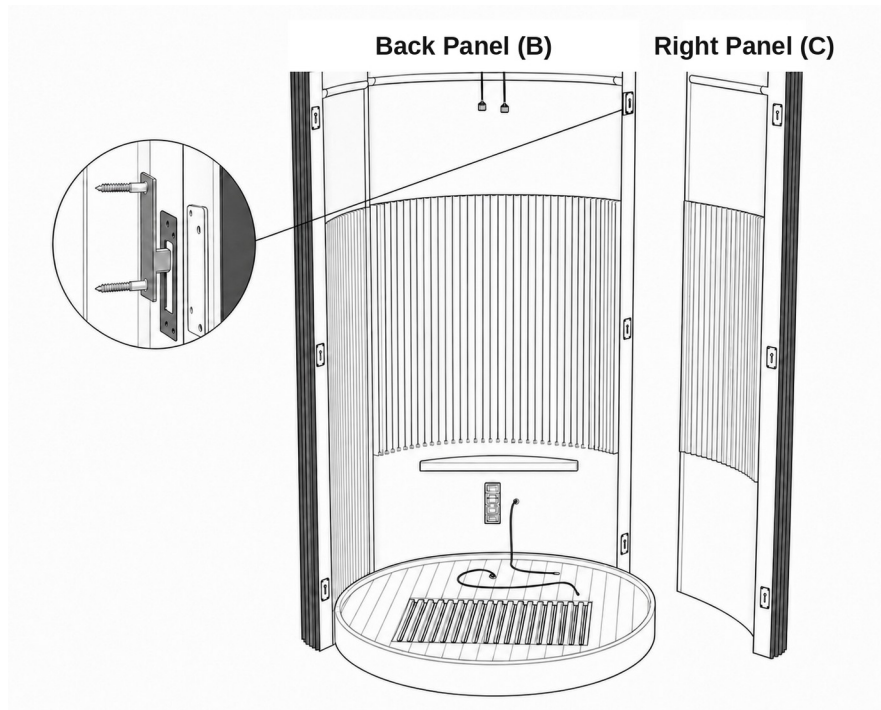

Figure 7. Right Panel (C) aligned with the right edge of the Back Panel (B), mirroring Step 4.
- Position the Right Panel (C) against the right edge of the Back Panel, right as you face the front of the sauna, and align its keyhole slots with the connectors on the Back Panel, exactly as you did on the left side (Figure 7).